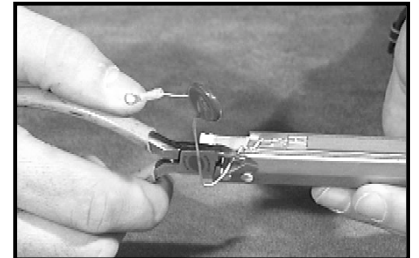

Figure 5
7. Remove the springs from both sides of the plate (connected to the drum axle plate (fig. 5 and 6)).